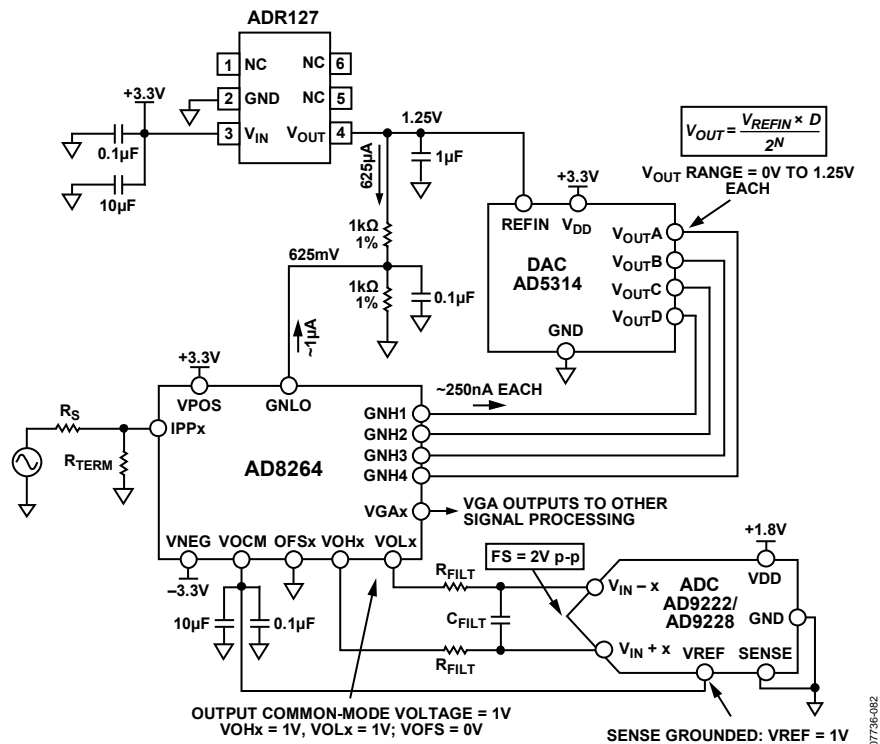
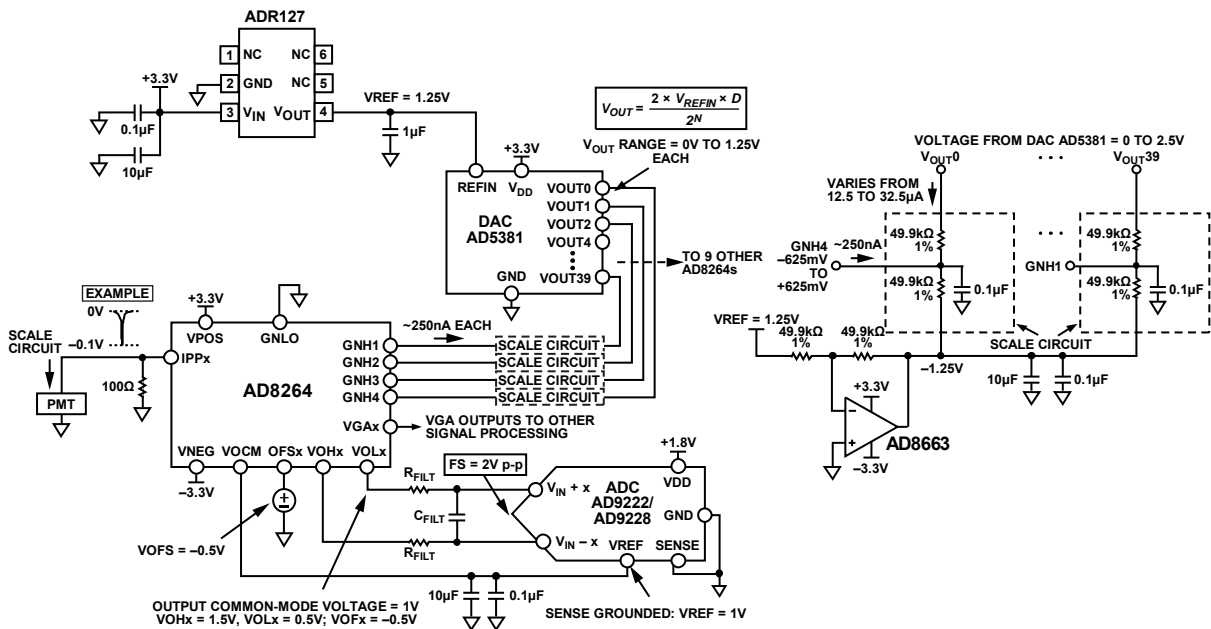

Figure 112. Application Concept of the AD8264 with the AD5314 10-Bit DAC and the AD9222/AD9228 12-Bit ADC
Figure 113. Concept Application of AD8264 with 40-Channel AD5381 12-Bit, 3 V DAC and AD9222/AD9228 12-Bit ADC
The AD8264 is particularly well suited for use in the analog front end of medical PET imaging systems. Figure 112 shows how to use the AD8264 with the AD5314 (a 4-channel, 10-bit DAC) and the AD9222/AD9228 (an octal or quad, 12-bit ADC, respectively). The DAC sets the gain of the AD8264. Note that the full gain span of 24 dB is achieved with this setup because the gain control input range of the AD8264 is very close to 1.25 V. The GNLO pin must offset by $1.25/2 = 625 \text{ mV}$ because the gain control input is bipolar around the voltage applied at GNLO. This is done with two 1 k Ω , 1% resistors. The approximately 1 μA of bias current flowing from the GNLO pin does not contribute a significant error because the basic gain error of the AD8264 is the limiting factor.
Figure 112 also includes the DAC output equation, which indicates that the output can vary between 0 V and $V_{\text{REF}} = 1.25 \text{ V}$.
The single-ended-to-differential amplifier of the AD8264 amplifies the VGA output signal by 6 dB and can provide the required dc bias of the AD9222/AD9228, as shown in Figure 112. The ADC is connected with the default internal reference because the SENSE pin is grounded. With this connection, the AD9222/AD9228 VREF pin is an output that provides 1 V; this is then connected to the VOXM input of the AD8264, which sets the output common-mode voltage of the VOHx and VOLx pins to 1 V. This voltage is very close to the recommended optimal value of $V_{\text{DD}}/2 = 0.9 \text{ V}$. With this configuration, the ADC inputs are set to a full-scale (FS) of 2 V p-p.
The dc connected concept example in Figure 113 is an application with the 40-channel AD5381, 3 V, 12-bit DAC. The main difference between this example and Figure 112 is that, for the same ADR127 1.25 V reference, the full-scale output of the DAC is from 0 V to $2 \times V_{REFIN} = 2.5$ V. Two options for gain control include the following:
- Use the same circuit as in Figure 112 but use only half the DAC output voltage from 0 V to 1.25 V. This is the simplest solution, requiring the fewest extra components. Note that the overall gain resolution increases by one bit to 11 bits over the 10-bit AD5314.
- Ground GNLO and scale the DAC output so that the GNHx inputs vary from -0.652 V to $+0.625$ V. Figure 113 shows a possible circuit implementation using a divider between the DAC output and a -1.25 V reference.
Figure 113 shows how the AD8264 is connected in a PET application. The PMT generates a negative-going current pulse that results in a voltage pulse at the preamplifier input and a differential output pulse on VOLx and VOHx.
A convenient method of verifying and customizing the signal chains shown in Figure 112 and Figure 113 is by ordering the corresponding evaluation boards available on www.analog.com. The AD8264-EVALZ is a platform through which the user can quickly become familiar with the features and performance capabilities of the AD8264. See the Evaluation Board section for more information.